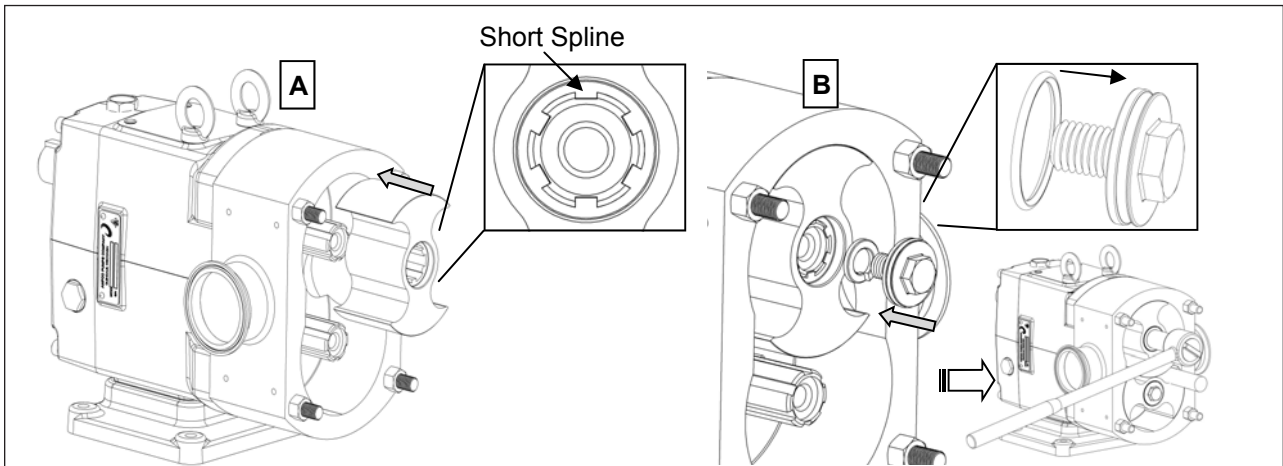

Figure 46. Rotor Installation
4. Remove the gear case studs and set the gear case in a press with the fluid end side facing down (Figure 46). Use a wooden block to protect the shafts from hitting the ground when pushed out. Once the protective block is in place, push the shafts out of the gear case.